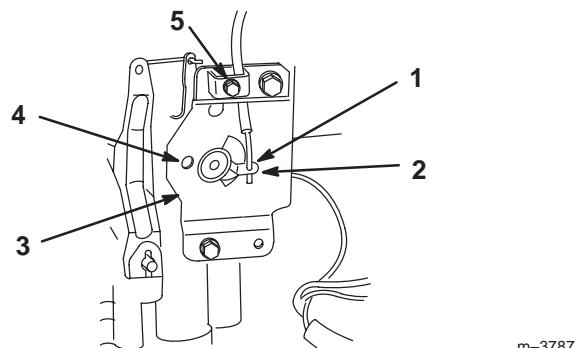

Figure 8
1. Place throttle control lever in fast position (Fig. 8).
2. Hook wire Z-bend into hole of speed control lever (Fig. 8).
3. Loosen cable clamp screw allowing cable installation, but do not tighten (Fig. 8).
3. Replace the spring washer, dish down and locknut (Fig. 8).